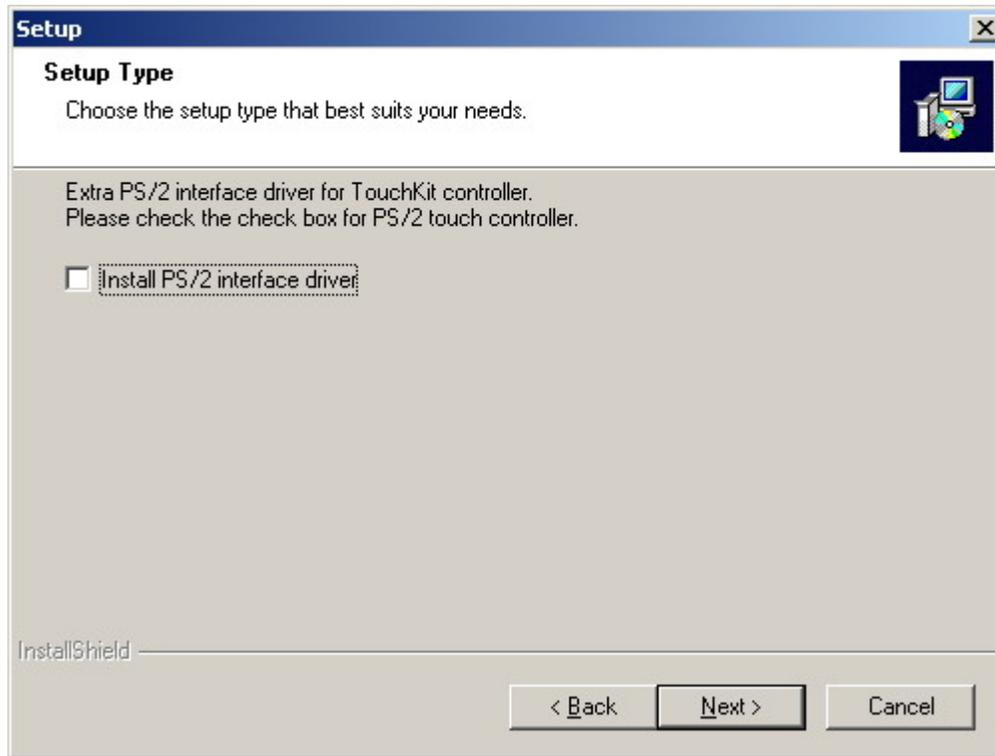

Figure C-4: Install PS/2 Interface Driver
Step 7: An **Install PS/2 interface driver** screen appears (Figure C-4). It is not necessary to install the PS/2 interface driver. To continue click **NEXT**.